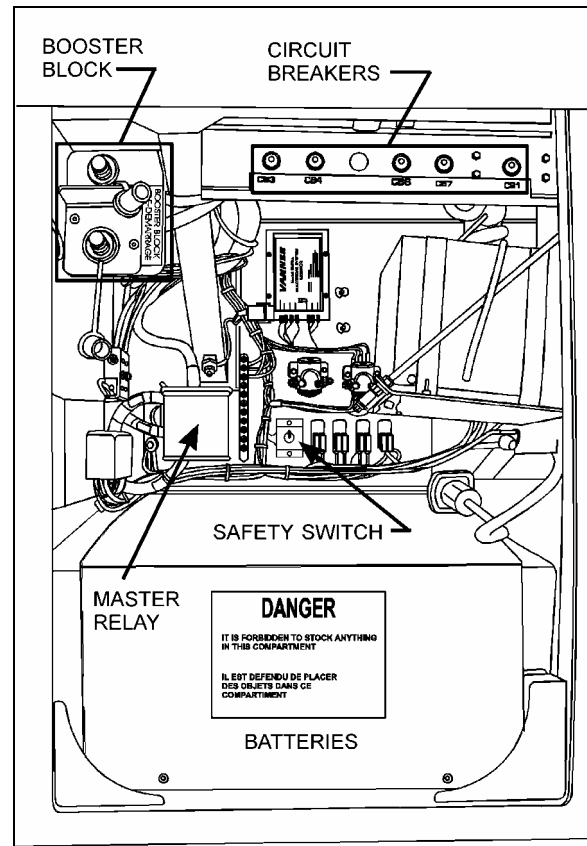

FIGURE 4: MAIN POWER COMPARTMENT (XL2-45) 06316
On XL2-45 coaches, booster block is located in the main power compartment (Fig. 4).
XL2-45 coaches are equipped with eight (8) main breakers; they are installed in the main power compartment and in the A/C junction box in the evaporator compartment, they can be identified as follows (Fig. 4, 5, 6 and 7):
On XL2-45 coach the battery equalizers are located in the main power compartment (Fig. 4).